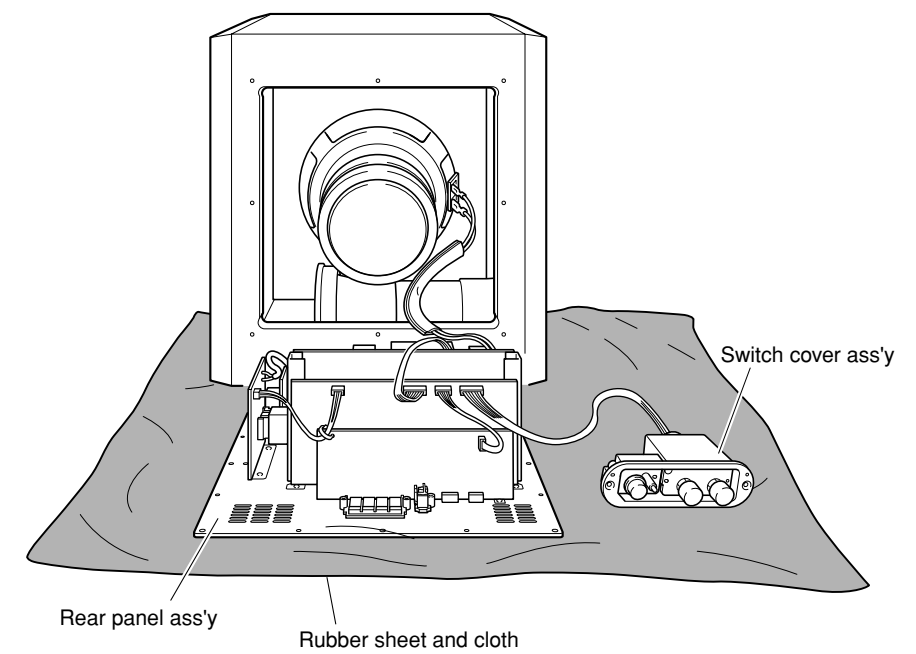

Fig. 4
- Spread cloth first and place the rear panel ass'y and switch cover ass'y on it. (Fig. 4)